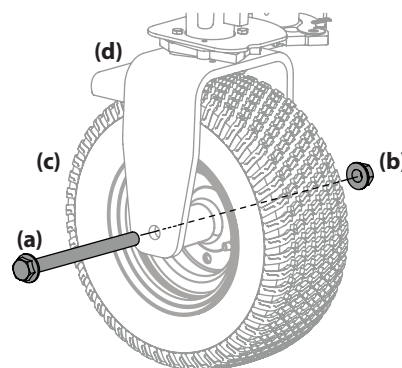

Figure 40
1. Remove the hex screw (a) and flange lock nut (b) that secures the front wheel (c) to the yoke assembly (d). See Figure 40.
2. To re-install or replace the front tire, reverse Step 1. Tighten the hardware to 75-90 ft-lbs. See Figure 40.